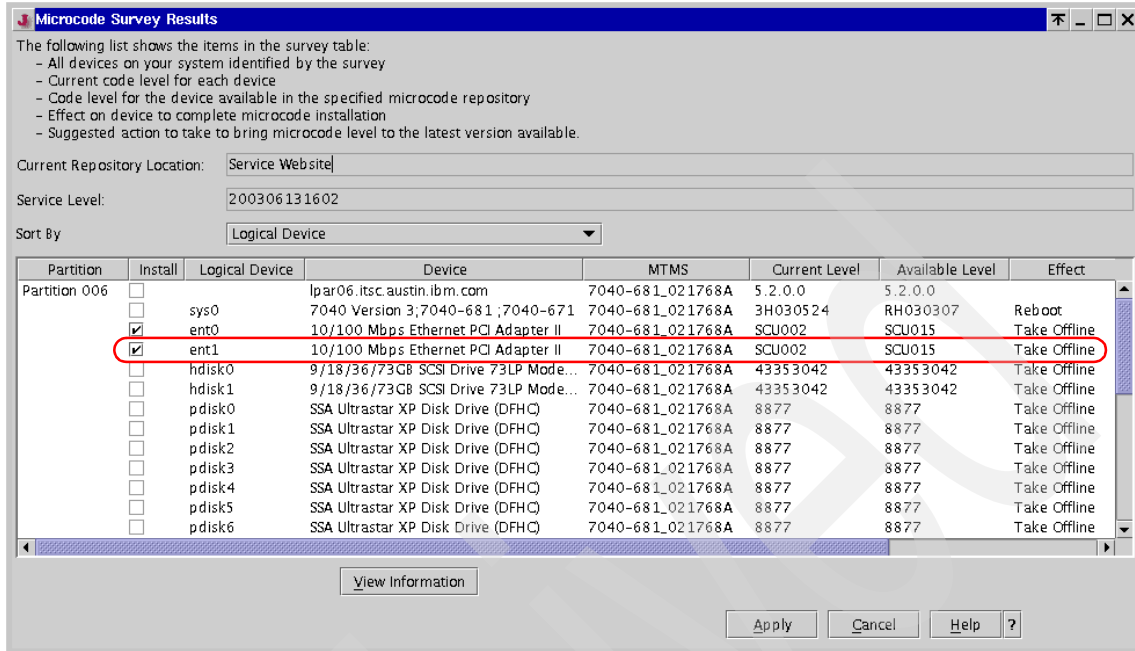

Figure 11-27 Microcode Survey Results
6. When the survey is completed, a summary of all the devices, their current and latest microcode levels, effects of the updates, and suggested actions will be displayed as shown in Figure 11-27 on page 277.